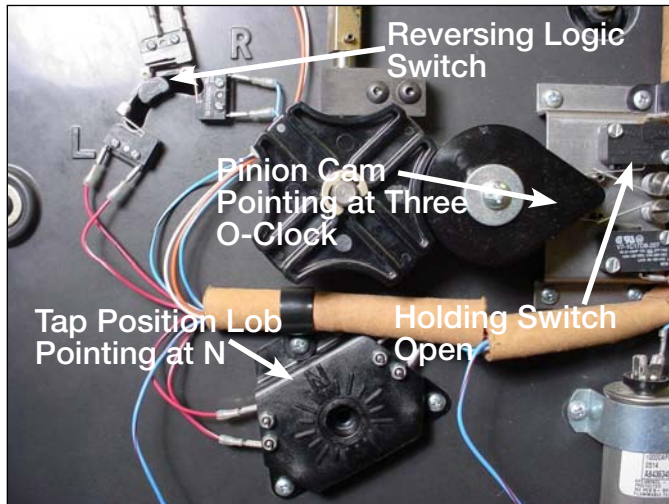

Figure 32.
13. Check and set the tap changer for neutral position. The tap changer can be set for any tap position by rotating the pinion cam in either the clockwise or counter clockwise direction. For neutral position the reversing logic switch actuator must be in the center with the neutral switch arm depressed. The tap position lobe must have the pointer pointing at N. The pinion cam point is pointing at the three o'clock position over the holding switch lever arm. The holding switch is open. See Figure 32.